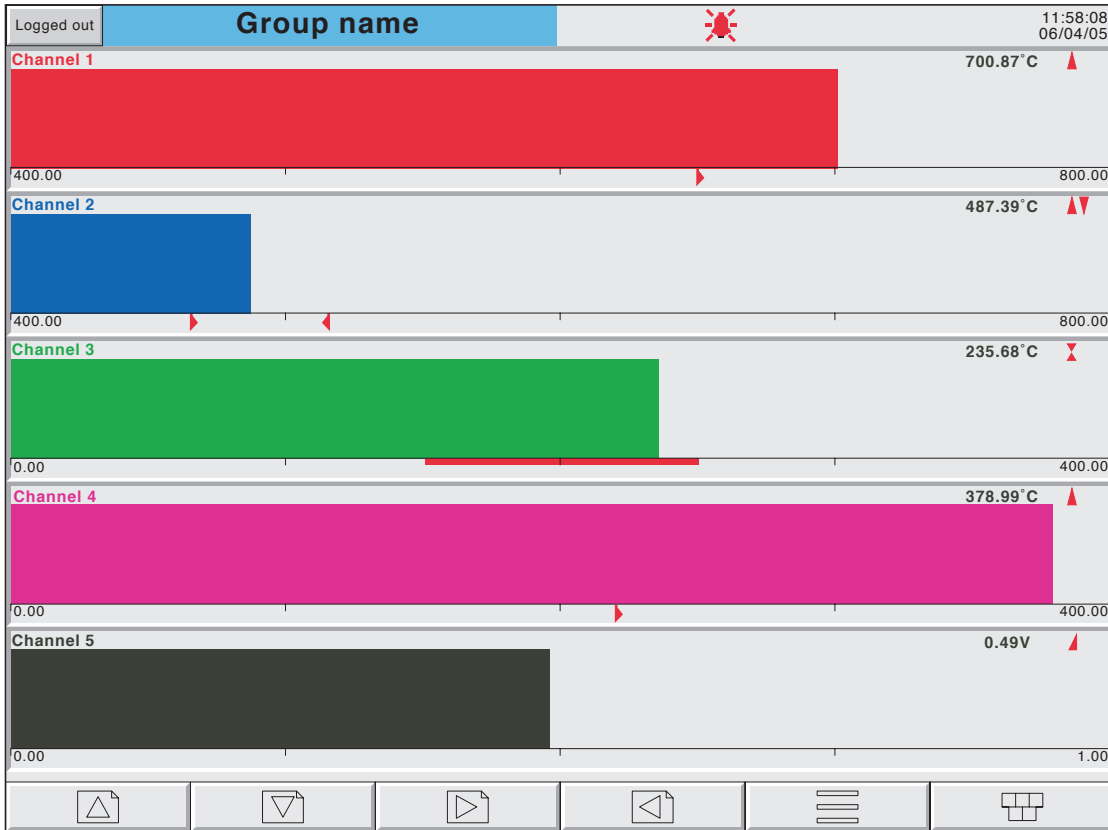

Figure 3.4.5a Horizontal bargraph display (single column example)
Entered from Vertical bargraph by means of the down arrow key, or selected using the Root Menu 'Goto View' key, this display mode shows the Process Variable (PV) values as horizontal bars with digital values and alarm data displayed, as shown in figures 3.4.5a and 3.4.5b.